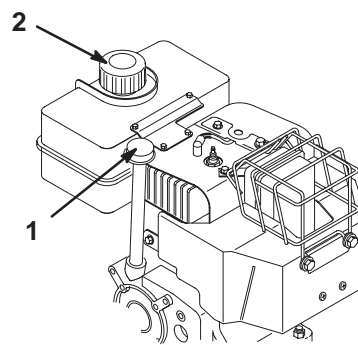

Figure 19
2. Clean around the dipstick (Fig. 19).
3. Remove the dipstick by rotating the cap counterclockwise and pulling it out (Fig. 19).
1. Clean around the fuel tank cap (Fig. 19).